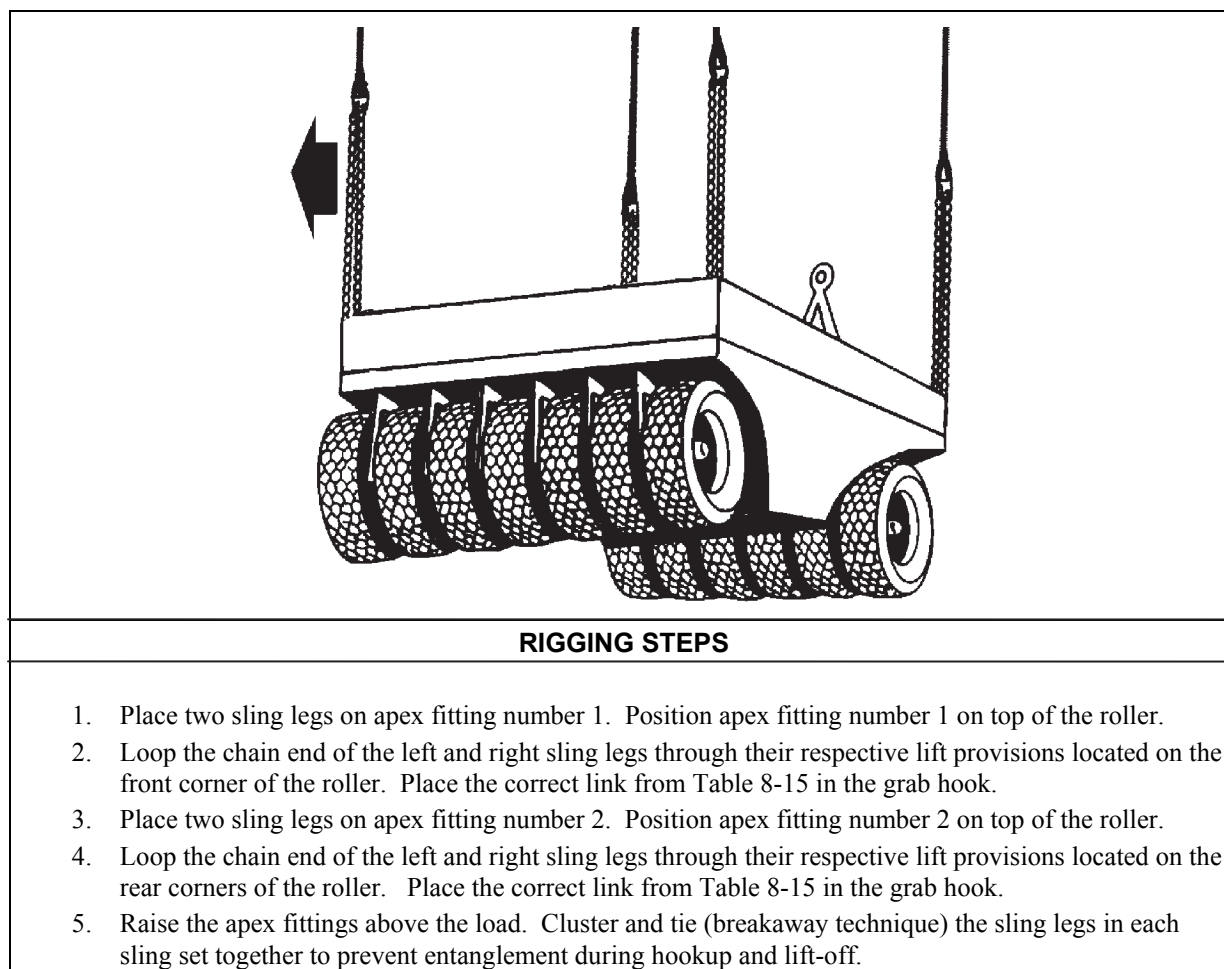

Figure 8-15. Towed Rollers
- **Rigging.** Rig the load according to the steps in Figure 8-15.